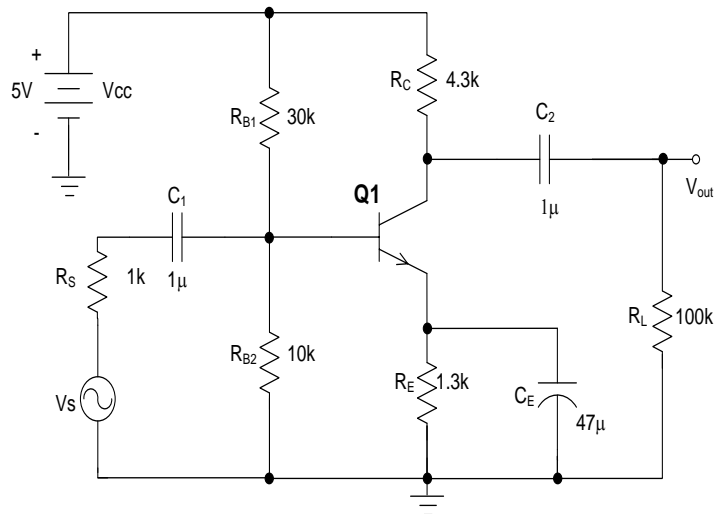

Figure 7: Circuit for example 3.
3. The input file of the circuit of Figure 7 is: